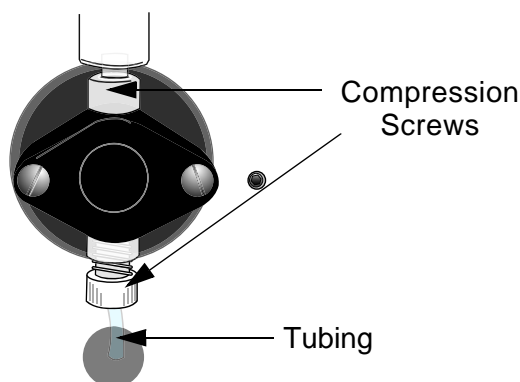

Figure 5-12. Pump, Front View
1. One piece at a time, unscrew the pump's compression fittings (see Figure 5-12) and secure the tubing to the front of the system with a piece of tape.